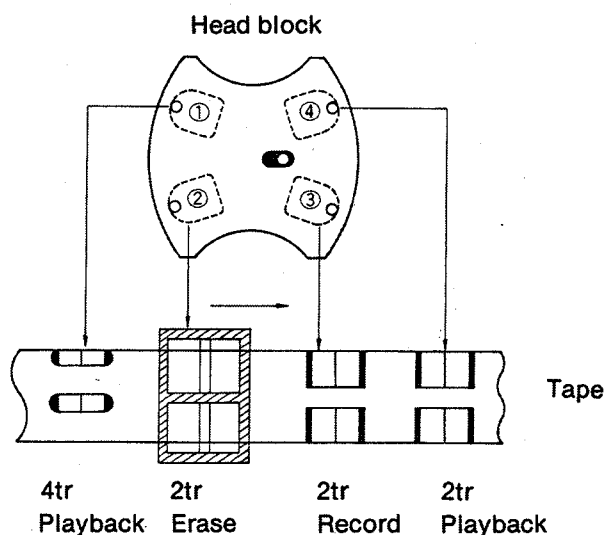

Fig. 30
First use the height-adjustment screw (A) to adjust so that the tape-to-head relationship are, as visually estimated, approximately as shown in figure 30.